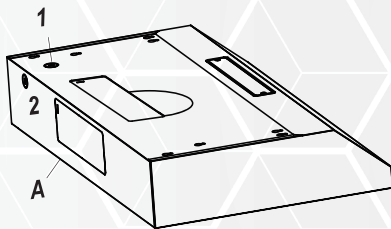
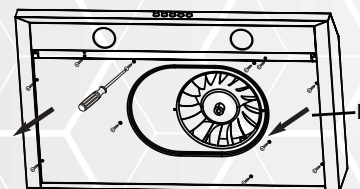

Fig. 10
Fig. 13
- Remove the bottom panel of the range hood (see Fig. 13) to access the electrical wire leads.
- Use the power supply cable to connect the range hood (A) directly to the junction box or circuit breaker box. Use a flexible, armoured or nonmetallic sheathed copper cable only. Never use an extension cord or adapter plug.
- Connect a UL-listed or CSA-approved conduit connector to each end of the power supply cable (at the range hood and at the junction box). Connect the 2 colored wires from the range hood (A) to the corresponding wires from the electrical source: black to black (live), white to white (neutral), and the house grounding wire to the green ground screw. Use either the top hole (1) or the back hole (2) of the range hood depending on your installation type as shown in Fig. 10.
- Choose the appropriate electrical knock-out hole to remove for your installation type. Use the top hole (1) if your electrical supply is in the cabinet and the back hole (2) if your electrical supply is on the wall below the cabinet (refer to Fig. 10).
- The damper and the adapter are located inside the range hood. To access these parts, remove the bottom panel (E) if you have not previously done so (see Fig. 13).
- Choose to install the damper (C) either in the top position (3) for top venting or in the back position (5) for back venting. Adapter (D) installs to position 3 & 4 for top venting only.
- Attach damper (C) or adapter (D) over chosen knockout opening. Make sure the damper pivot is oriented on top such that the damper stays closed when not in use.
- Secure the damper (C) or adapter (D) to the range hood (A) with the short tapping screws (BB).
- Seal the damper (C) or adapter (D) to the range hood (A) on all four sides with duct tape.